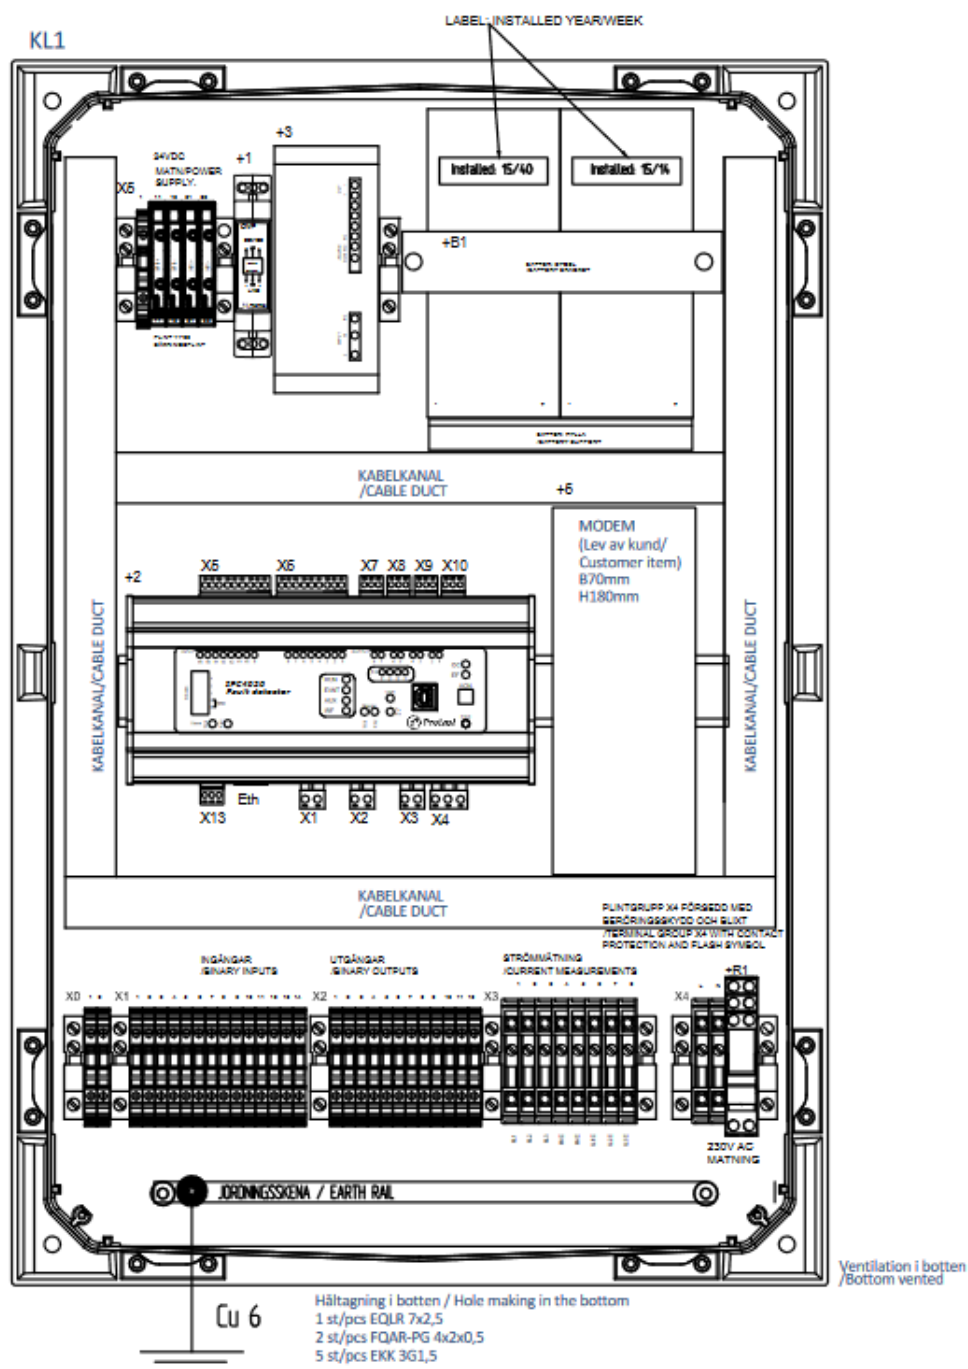

Figure 1: Control Cabinet ST-2019-01 LO with IPC4020 fault detector.
- Standard cabinet ST-2019-01 LO – fault detector IPC4020 for one line (Figure 1)